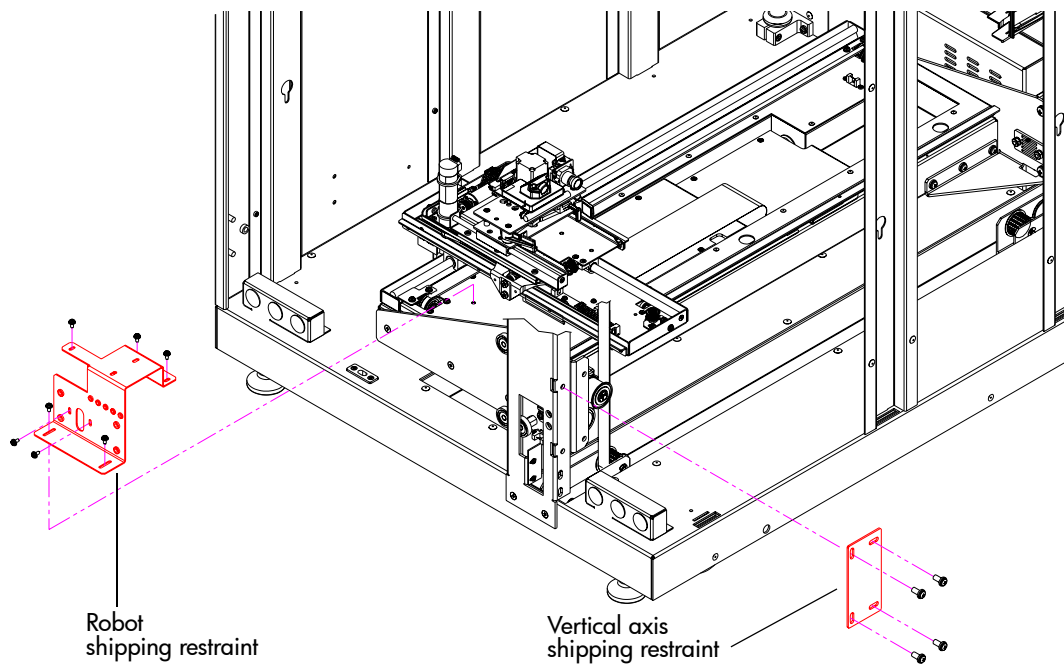

Figure 38: Installing the robotic shipping restraint
5. Install the robotic shipping restraints (see Figure 38).